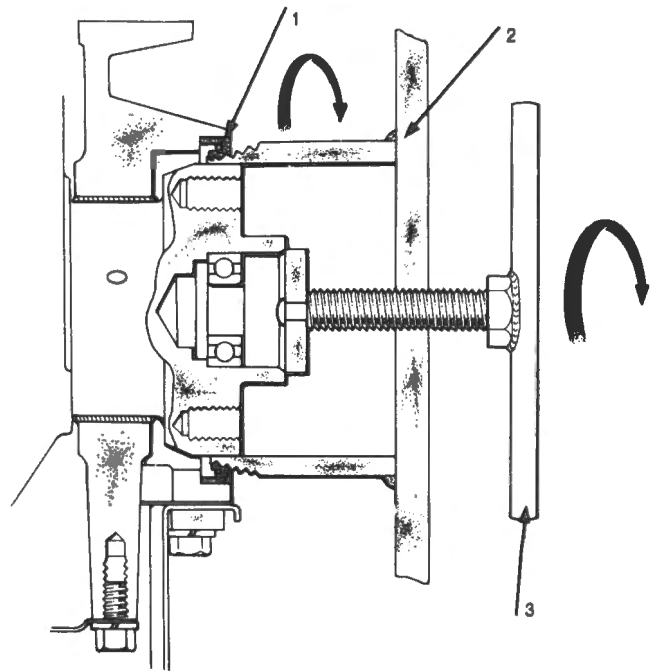

Fig. D-68
- 3 Extract the seal from the cylinder block using service tool 18GA031. Fig. D-68.